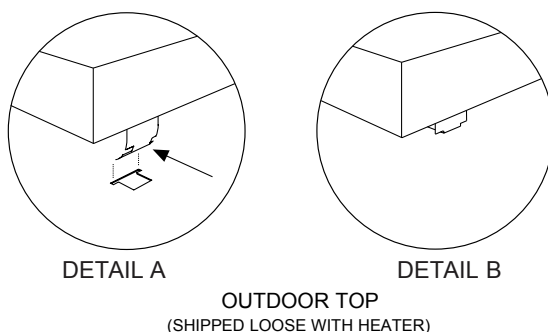

Figure 5. Outdoor Top Installation
1. Insert tabs into keyhole (4 places). See **Figure 5**, detail A.
2. Snap tabs into keyholes so as not to pull out. See **Figure 5**, detail B.